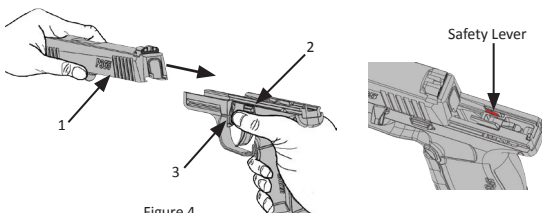

Figure 4
3. Grasp the receiver/grip module with your right hand and push the takedown lever (Figure 4, Item 3) clockwise with your thumb until it stops. This will drop the slide catch lever (Figure 4, Item 2) allowing you to push the slide onto the receiver.